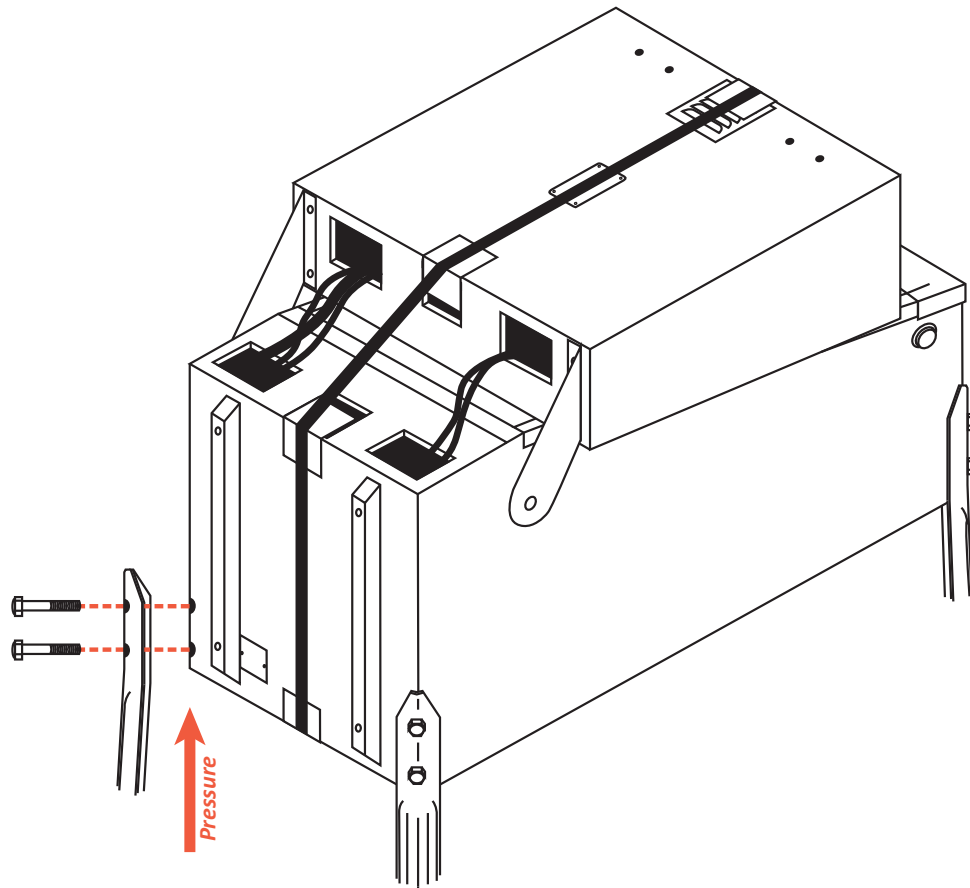

Figure A6. Installing the rear legs.
6) With the help of at least one other person, carefully tip the game onto its front legs. Lift the rear of the cabinet and have two people support it or place it on a sturdy support. As with the front legs, attach the two rear legs, using the four remaining acorn-head bolts. Tighten all bolts firmly, while maintaining upward pressure on the legs (see figure A6). Lower the game onto its legs.